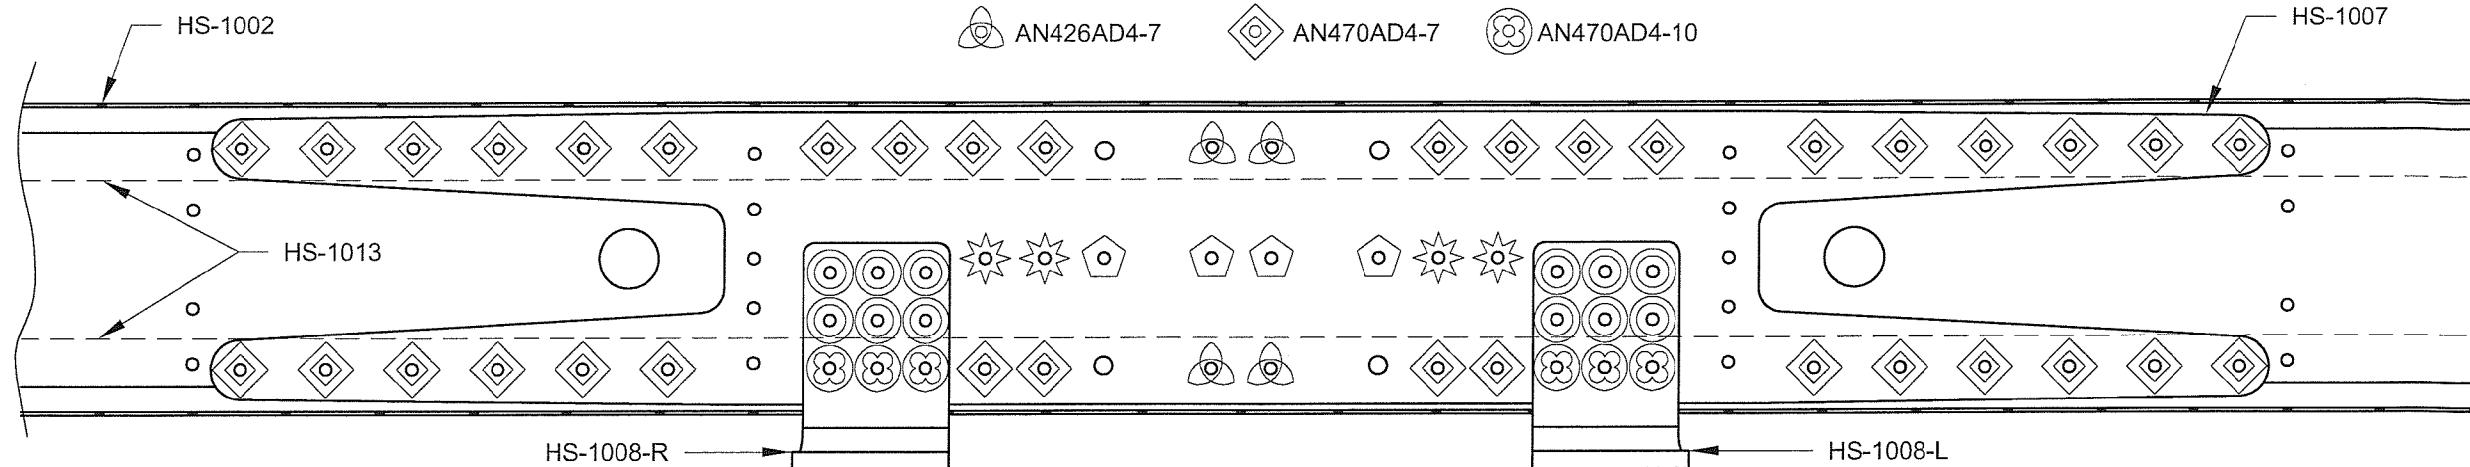

**FIGURE 1: FRONT SPAR ASSEMBLY**
Step 1: Rivet together the HS-1002 Front Spar, the HS-1007 Front Spar Doubler, the HS-1013 Front Spar Caps, and the HS-1008-L and -R Front Spar Attachment Brackets using the rivets shown in Figure 1. Install only the rivets shown in the figure. Tape over the open holes to keep yourself from accidentally riveting them.